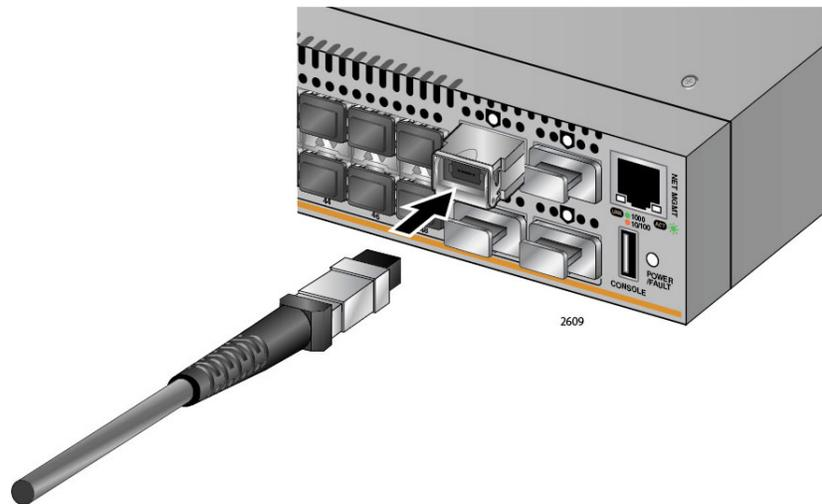

Figure 34. Attaching a Fiber Optic Cable to an QSFP+ Transceiver
7. Insert the fiber optic cable to the port on the transceiver, as shown in Figure 34, until it clicks in place.